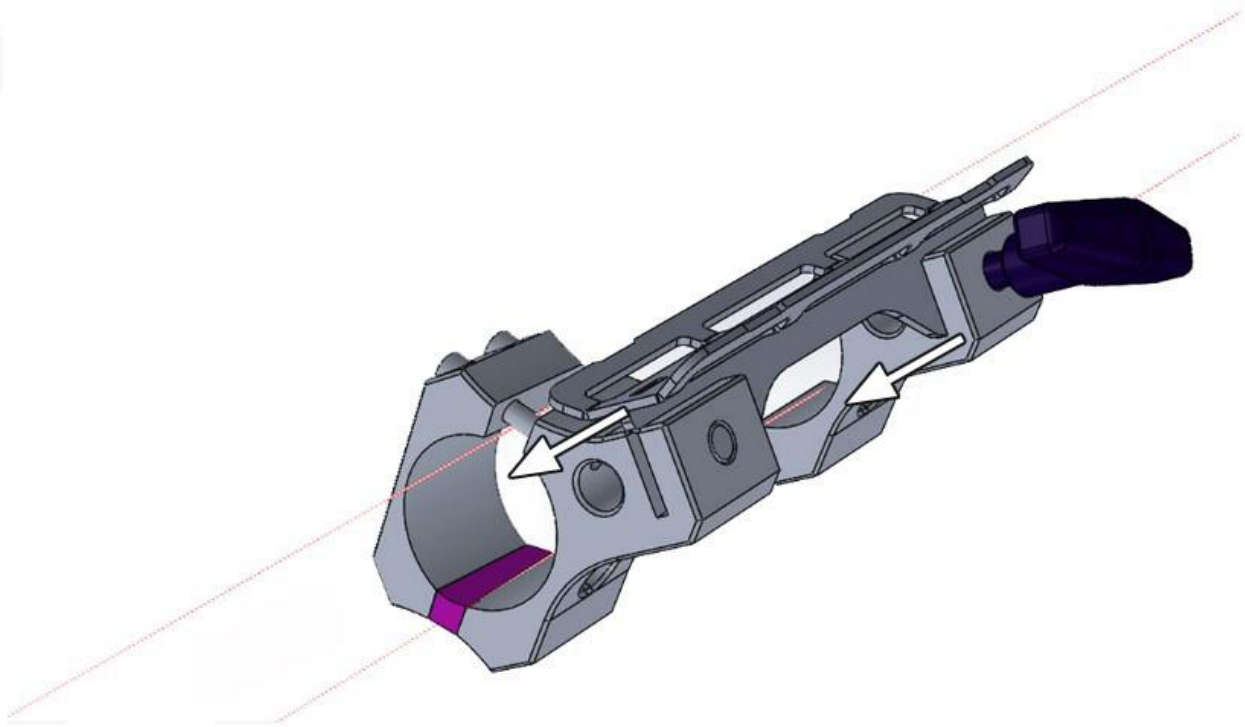

Figure 3-1
3. Take the upper roll cage mount, this is the one with the hole for the quick release pin, and attach the fire extinguisher mounting bracket using the quick release pin. This will help locate the distance between the two roll cage mounts. Once attached you will take the upper roll cage mount and fire extinguisher bracket and slide it down onto the lower mount.(fig 3-1)